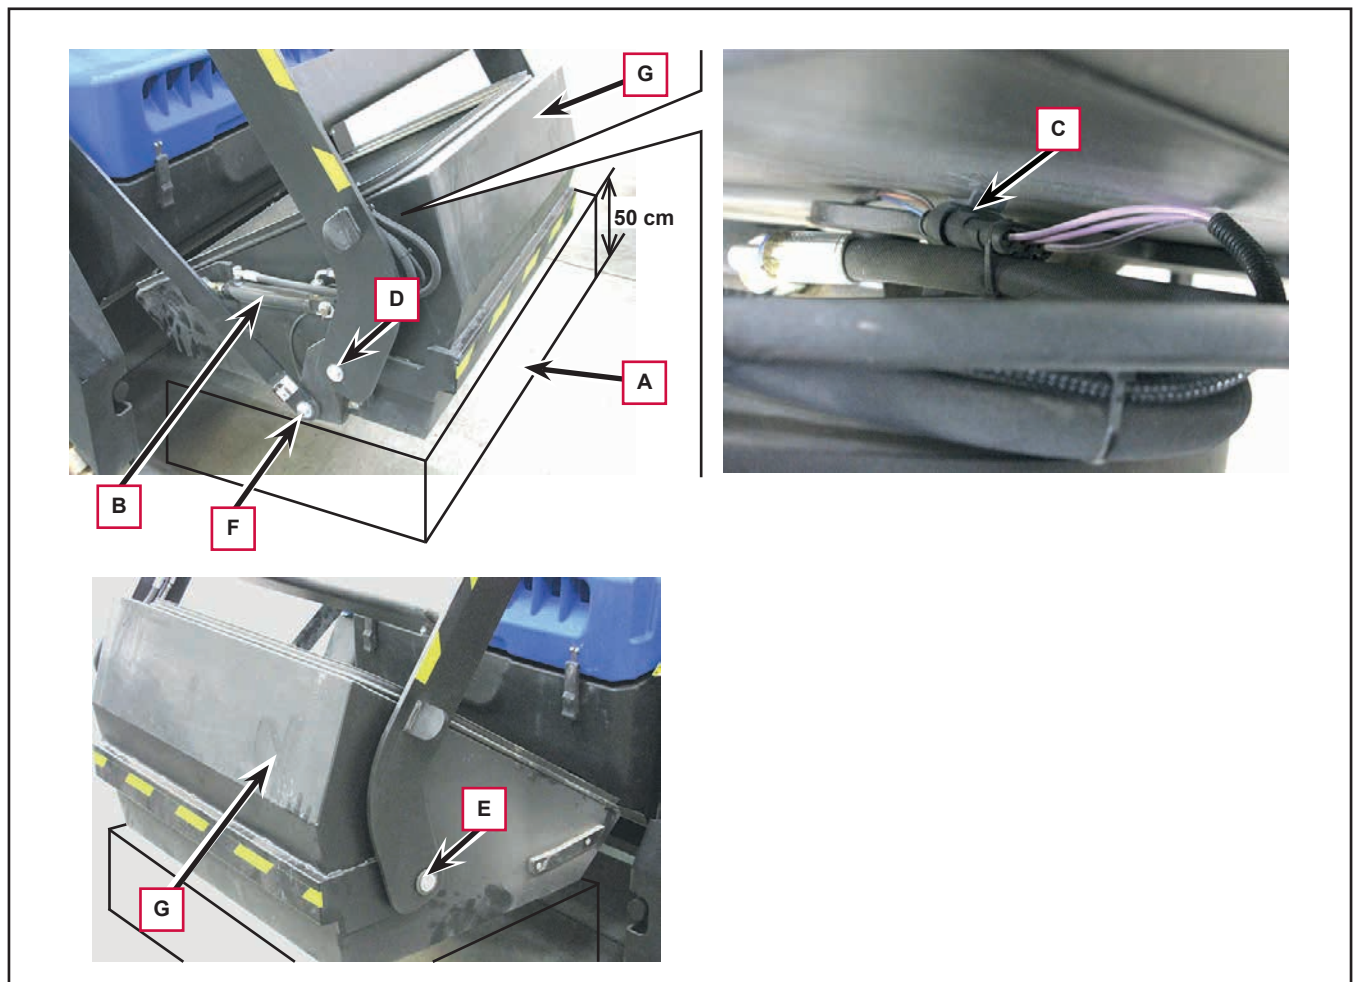

Figure 10
2. Partially raise the hopper, then close it, making it rest on a platform (A, Figure 10) approx. 50 cm high.
5. Remove the hopper dumping cylinder (B) (see procedure in relevant paragraph); it is not, however, necessary to disconnect its hoses, nor is it necessary to bring the hopper to head height.
6. Cut the retaining clamp and disconnect the sensor electrical connection (C).
7. Unscrew the two threaded pins (D), (E) and (F).
8. Remove the hopper (G) (weight approx. 30 Kg).